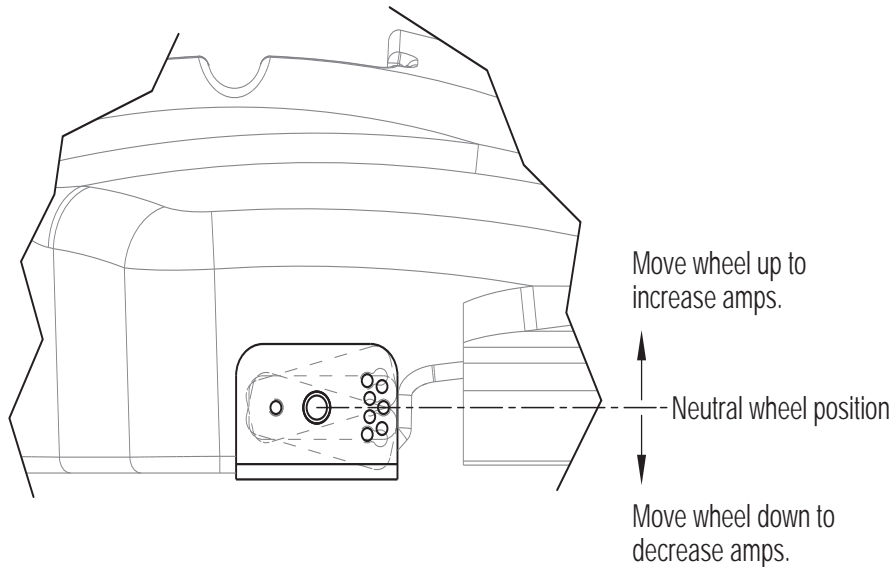

**Figure 5**
9. Tilt the machine so that it sits on its rear wheels and link arms. See figure 5.